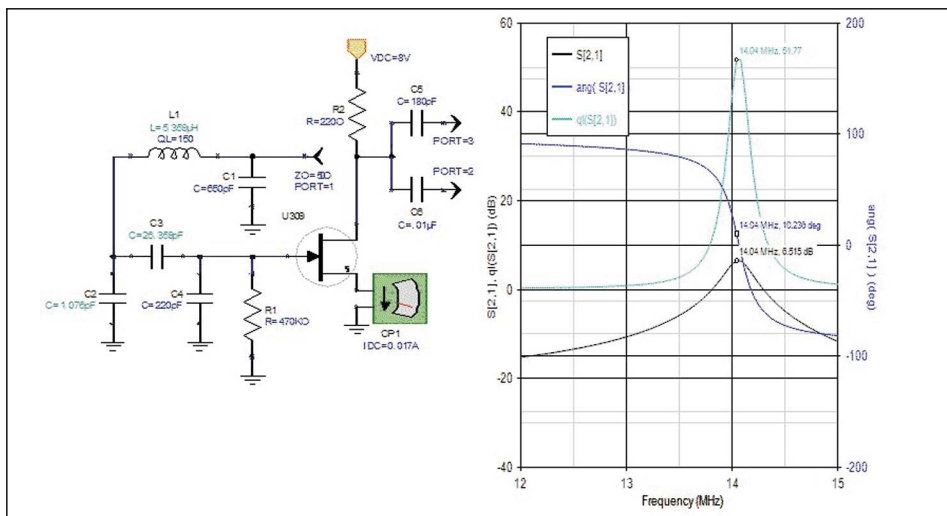

Figure 7—Resulting simulation with high L1 and C1 values.
Another successful simulation is shown in Figure 7, included to show the result of very high values of L1 (5.359 uH) and C1 (650 pF). Notice a steeper ang S(2,1) curve and a much higher Qu value. Who would ever image that these resonator values would produce a 14 MHz oscillator! The simulation lowered the values of C2 and C3 needed to achieve oscillation at 14 MHz.
On the workbench, 6 turns were taken off L1 and the value of C2 was about 1.6 pF. To be within the simulation values, the tuning capacitor would have to be a single plate variable capacitor and would have a very wide tuning range. A 2 to 5 pF ceramic trimmer was used on the workbench to tune the Figure 7 oscillator.
6. The high L/C (Figure 7) version's high sensitivity to capacitor values made it very easy to find capacitors that caused a lot of drift. Using a slightly better NPO feedback capacitor made a slight improvement. However, a 2-5 pF ceramic trimmer was a huge negative coefficient drift offender. This version of the Vackar made it easy to improve drift of the other simulation and the original circuit.